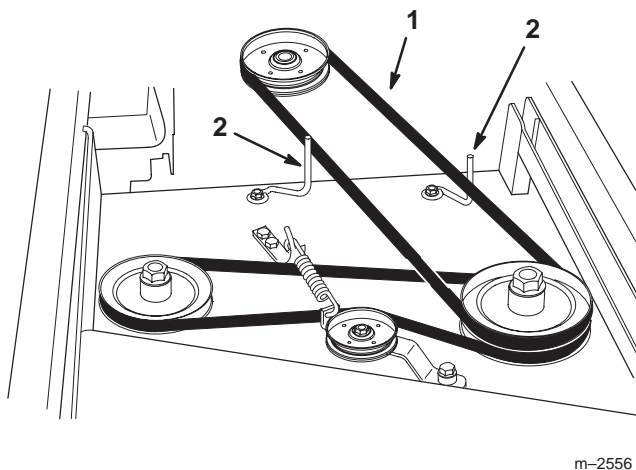

Figure 8
9. Check the position of the belt guides. The guides should be positioned about 1/8 inch (3 mm) away from the belt (Fig. 8). Adjust the belt guides as necessary.